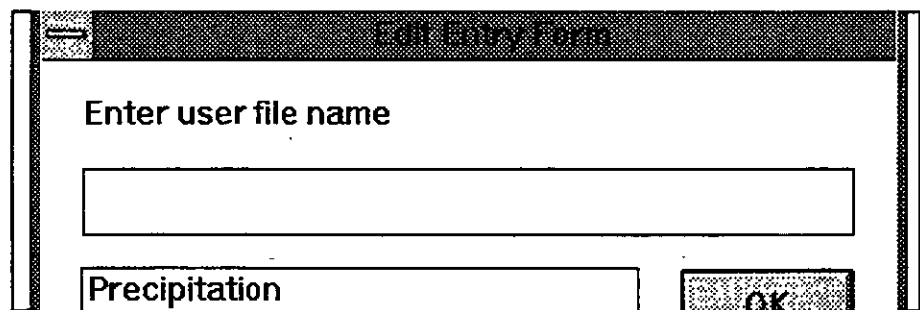

Figure 18-7
3. Click on **User Data**. GWW will open a dialogue box prompting you to select one of user-defined applications. GWW knows which applications you have created by making new file structures. In this case only one application will be listed with the name Precipitation as shown in Figure 18-7.